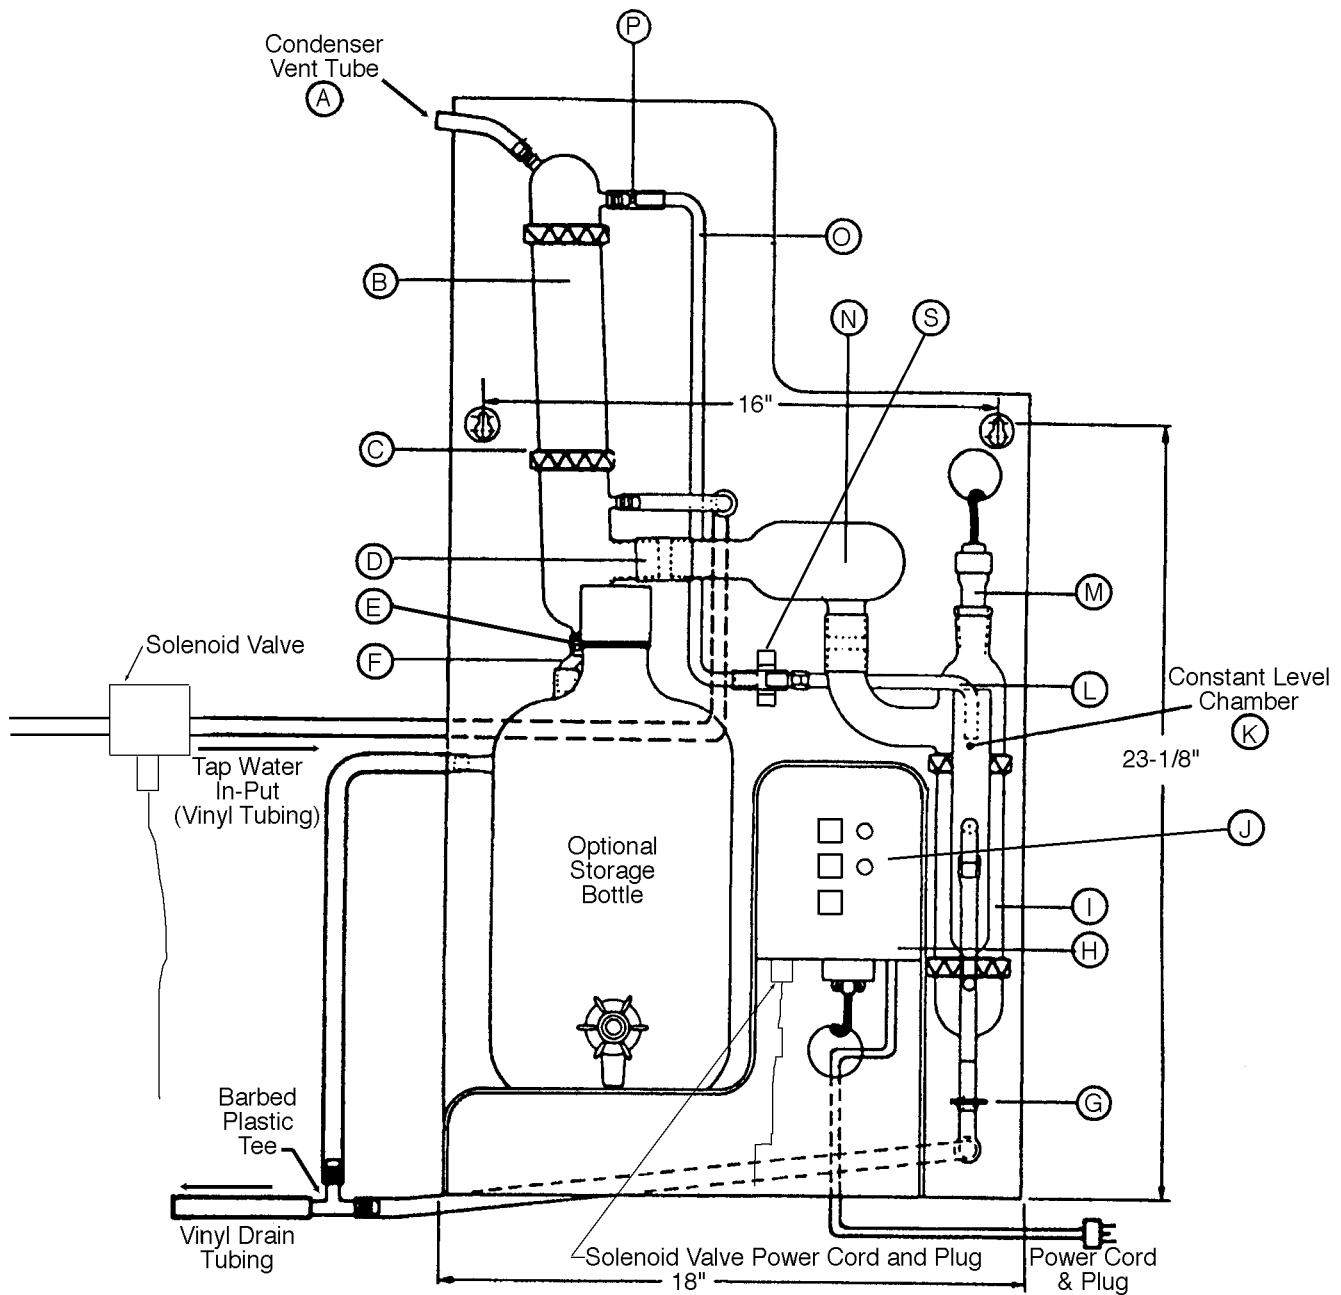

Figure 1 MEGA-PURE One Liter Still
*Refer to Figure 1 (page 2) for the following step:*
3. Using diagonal cutting pliers, cut and remove the five (5) plastic shipping ties. The shipping tie locations are: Two (2) on the condenser "B", two (2) on the boiler "I", and one (1) on the trap "N."